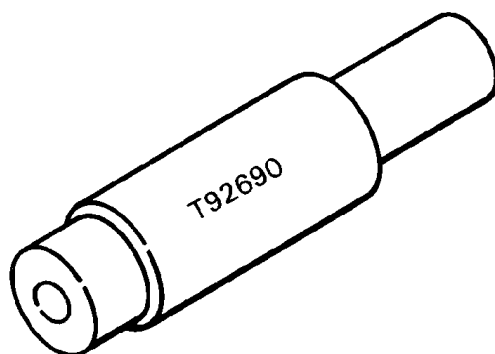
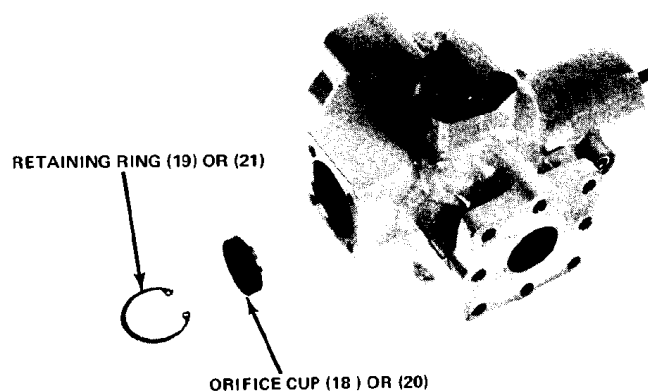

Figure 4.4. Orifice Cup Replacement Tool
Figure 4-5. Orifice Cup Assembly
13. Use tool T92890 (Figure 4-4) (small diameter end) and replace orifice cup (18) if previously removed. Secure with retaining ring (19). See Figure 4-5.
14. Use large diameter end of tool T92690 and replace orifice cup (20). Secure with retaining ring (21). See Figure 4-5.